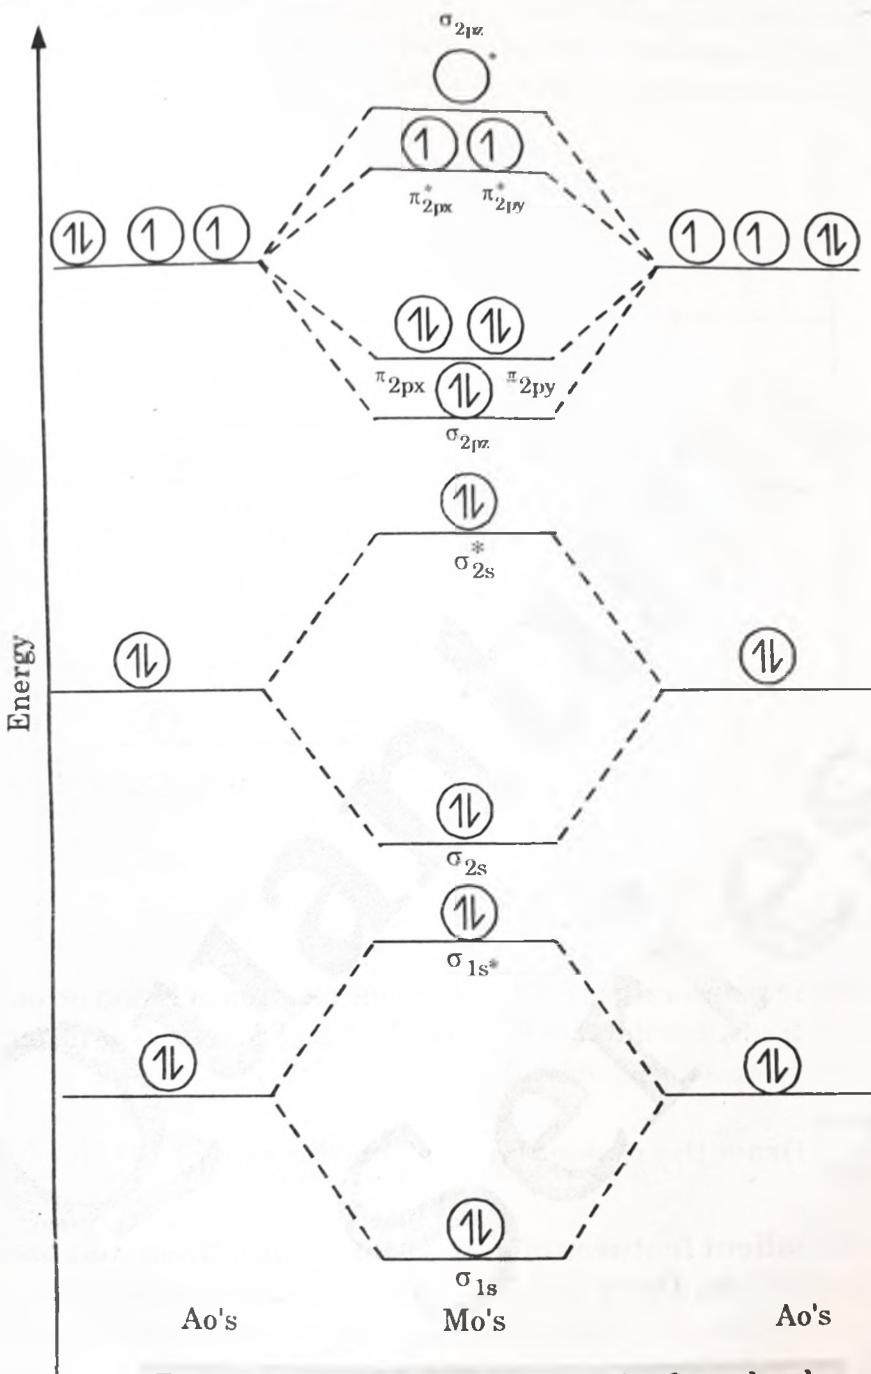

Fig. 1.3.1. Energy level diagram for O_2 molecule.
- iv. From molecular diagram (Fig. 1.3.1) it is clear that two unpaired electrons are present so molecule is paramagnetic.